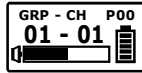

Fig. 5
3. GRP-CH: Displays Group and Channel Information, Fig. 5.
- (A) Press MODE and stop on the GRP CH function; the LCD screen will start flashing in the current set state. After 30 seconds, the display will stop flashing and show the current group and channel.
- (B) The group and channel information is now shown on the display. Changing the current group and channel must be done on the receiver.
- (C) Programming and saving Group and Channel need to be synced by pressing "ACT" button on the receiver.
- (D) When programming a special frequency via monitoring software, the LCD screen cannot display the number. This is because this special channel is not in the preset group and channel. RF, the LCD panel will look like the illustration below.